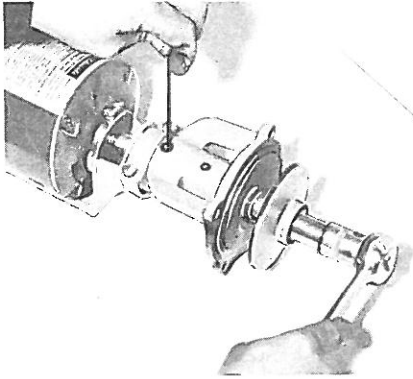

FIG. 5
4. Parkway Model: Slowly rotate circulator **Impeller Assembly** by hand until set-screw is visible in **Set-Screw Access Hole (D)**. Insert Allen wrench in set-screw so that shaft may be prevented from rotating while unscrewing **Impeller Assembly** with socket wrench clockwise, (left handed thread) and removing from shaft. (See Fig. 5)
5. Model 101: Slowly rotate circulator **Impeller Assembly (C324)** by hand until set-screw is visible in **Set-Screw Hole (D)**. Insert Allen wrench in set-screw so that shaft may be prevented from rotating while **Impeller Retaining Nut (E)** is unscrewed clockwise (left handed thread) with a socket wrench. Remove impeller retaining nut and carefully remove impeller from shaft. (See Fig. 5)